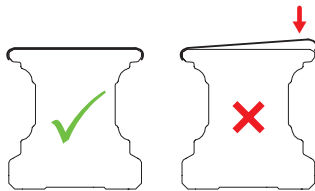

Fig. 4.20 Correctly and incorrectly installed cover tape
- ▶ To do this, press down the fold of the cover strip first on the reference side of the profile rail. Then, press down the second fold of the cover strip starting from the front side, until the cover strip rests flush on the upper side of the profile rail, see Fig. 4.20.